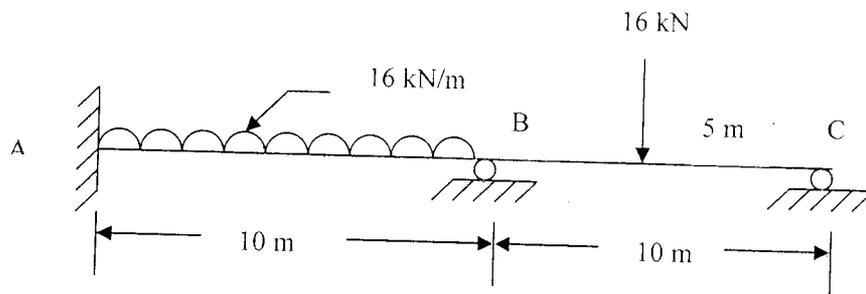

Fig. 7
- (6) 14. (a) Analyse the continuous beam shown in fig. 7 by flexibility method. Draw BMD.